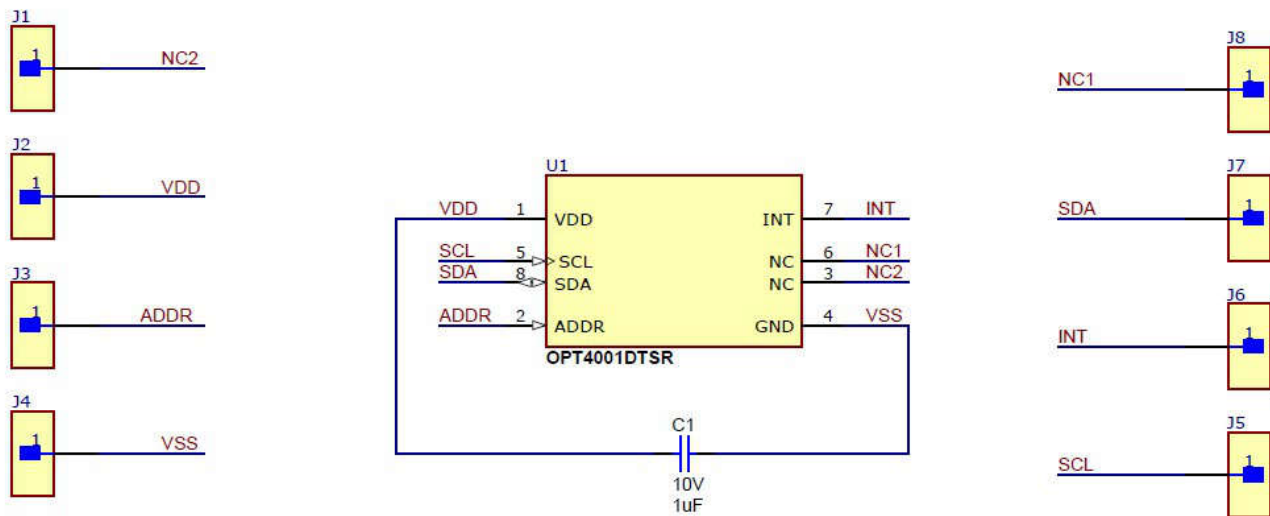

Figure 3-1. OPT4001 Schematic
Figure 3-1 shows the OPT4001 light sensor design schematic. The light sensor is typically mounted on a dedicated sensor board and is separate from the main board. The light sensor board is able to connect to the main board. Refer to the following design tips:
- The SDA and SCL pins require pullup resistors. Customers can add resistors to the light sensor board or the main board. For the best signal quality, avoid using long wires or traces. Pullup resistors are not shown in Figure 3-1 since these resistors are added to the main board.